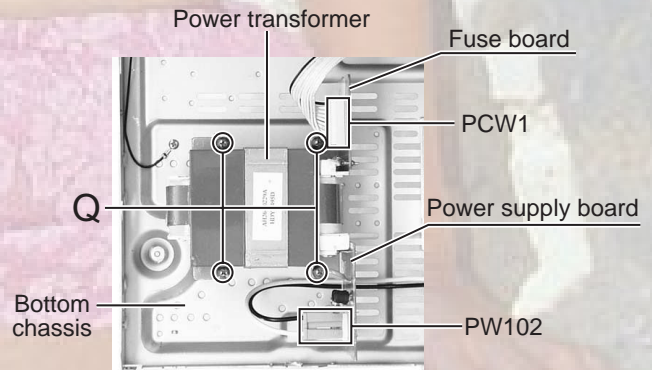

Fig.17
**■Removing the power transformer (See Fig .17)**